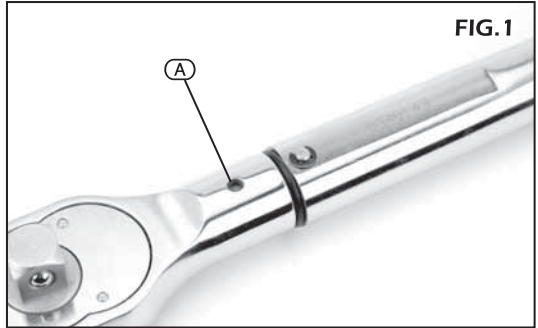

FIG. 1
1. Depending on the orientation on the bolt thread, press in the locating pin (A) and rotate the ratchet head for the desired direction of torque (Fig. 1). Ensure the head 'clicks' into place.